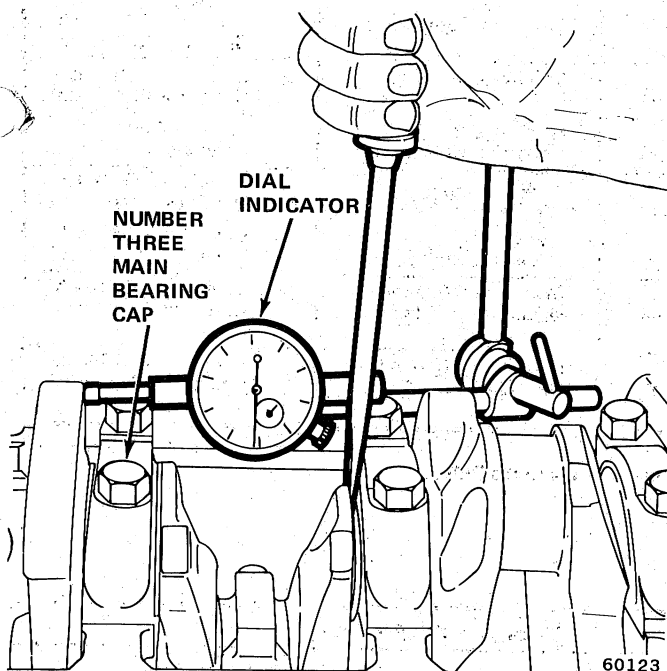

Fig. 1B-91 Measuring Crankshaft End Play
(1) Attach dial indicator to cylinder block adjacent to No. 3 main bearing (fig. 1B-91).